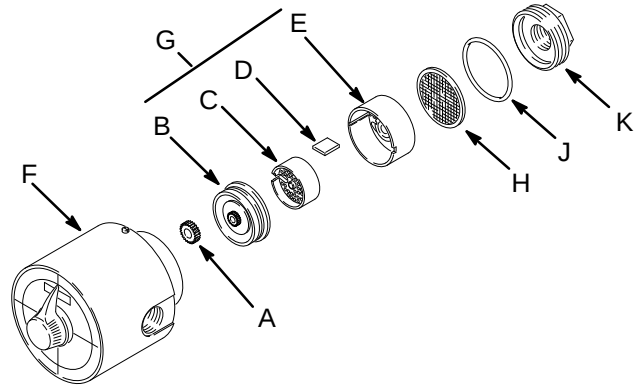

Fig. 6
2. Remove the meter from the valve. Unscrew the meter cap (K). Remove the o-ring (J), screen (H), piston and chamber assembly (G), and the planet gear (A). See Fig. 6.